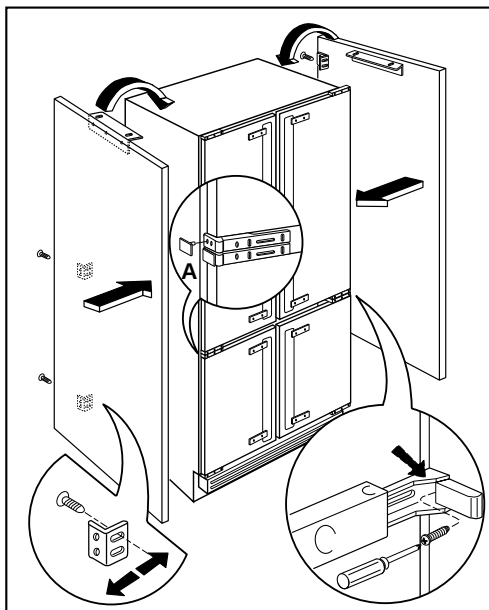

Fig. 4
- Rest the panels against the appliance (Fig. 4).
- Secure the panels at the front. If using panels less than 20 mm thick, fit spacer plates A, supplied with the appliance, on the hinge side (Fig. 4).